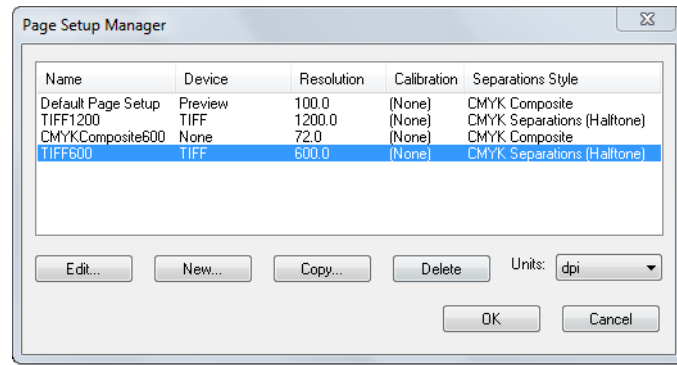

Figure 3.1 Page Setup Manager dialog box
2. In the Page Setup Manager, as shown in Figure 3.1, select a Page Setup. **Default Page Setup** is a safe choice: select it and click **Edit** to display the Edit Page Setup dialog box. If you want to create a new Page Setup, the easiest way is to copy the **Default Page Setup**. Select **Default Page Setup** and click **Copy** to display the New Page Setup dialog box.